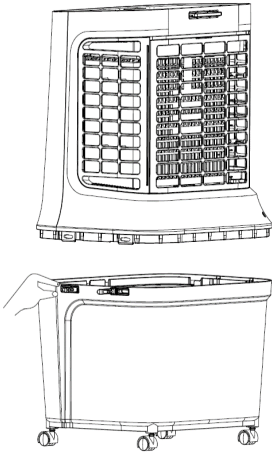
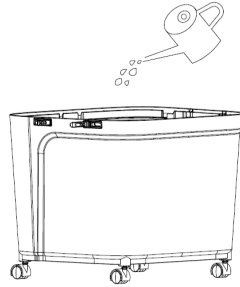

Figure 3
Figure 4
- 2) Before adding water, open the 4 water tank buckles to separate the body from the water tank, and slowly pour water into the water tank (Figure 3 and Figure 4): After adding water, install the body and water tank, and fix the buckle.